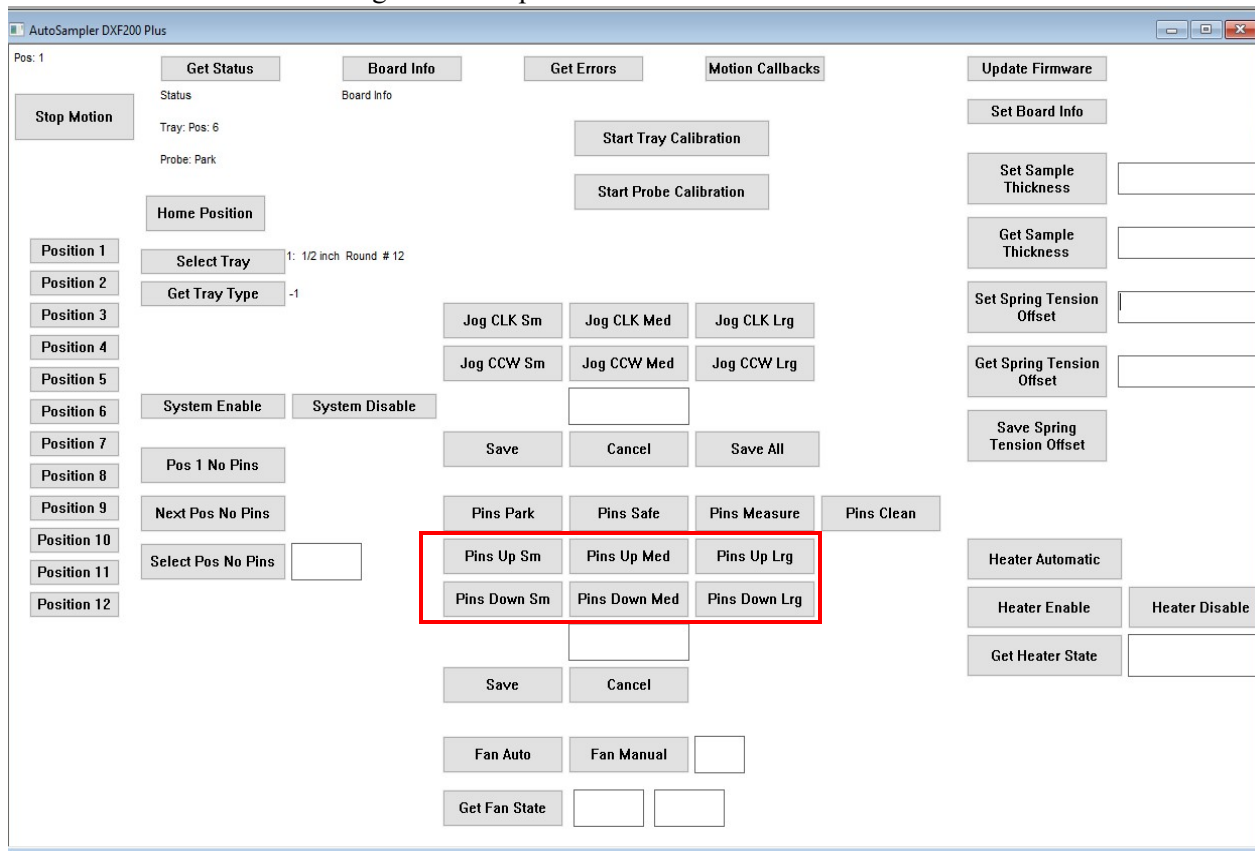
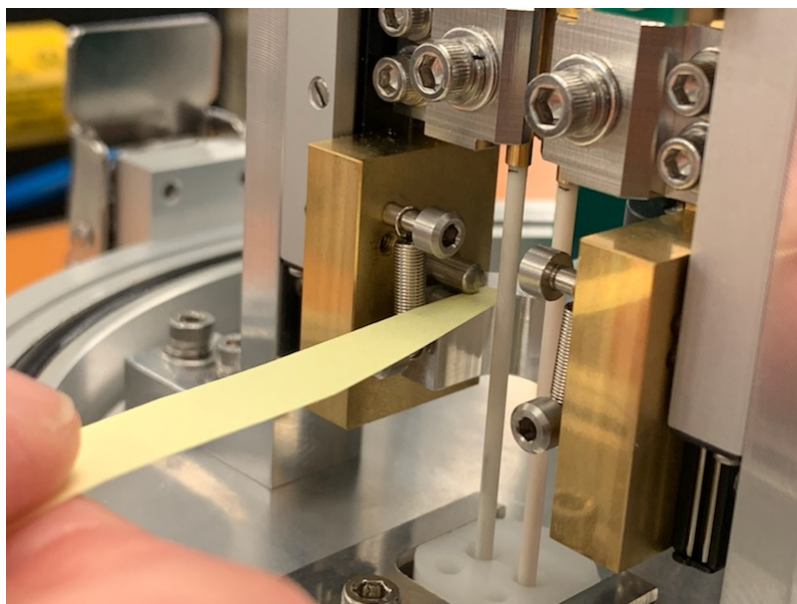

Figure 27 Pins Up and Pins Down buttons.
Figure 28 Gap between the pin on the brass block and lift carriage.
- 7 Adjust the pin height using the **Pins Up** and **Pins Down** buttons. “Sm,” “Med,” and “Lrg” indicate the size of the incremental movements of the pins (Figure 27). The pins should be adjusted until a piece of paper fits in the gap between the pin on the brass block and lift carriage (Figure 28). This gap should exist on both the left and right detector pins.
- 11 The Autosampler window displays (Figure 27). Enter **10 mm** in the **Set Sample Thickness** field.
- 14 Check the gap between the pins on the brass blocks and lift carriages (Figure 28).